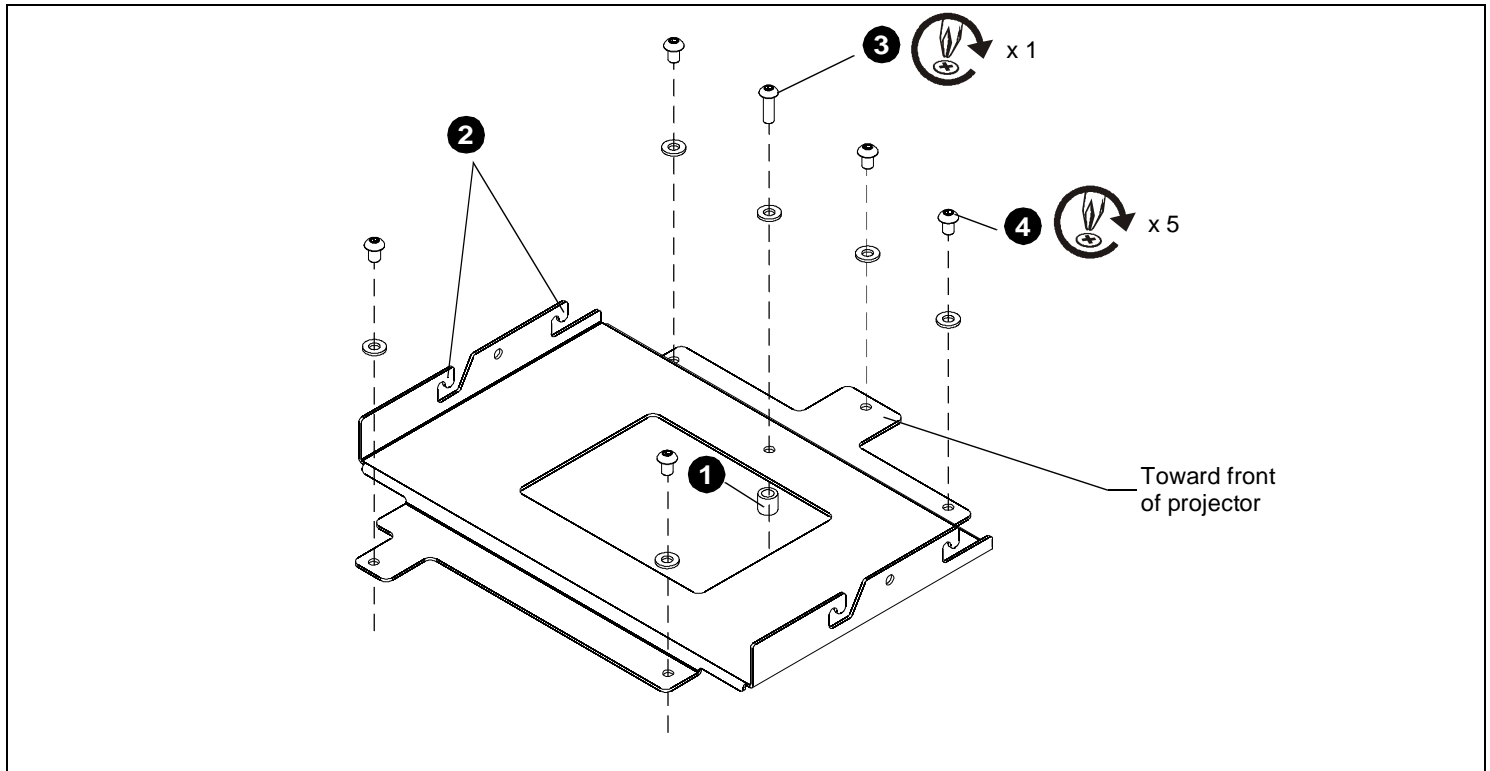

Figure 1:
2. Lower custom HB bracket onto spacer on top of projector. Ensure that the side hooks open towards front of the projector. (See Figure 1)
4. Insert five M8 x 12mm Phillips button head screws through M8 flat washers and into bracket. (See Figure 1)
5. Tighten all fasteners. (See Figure 1)